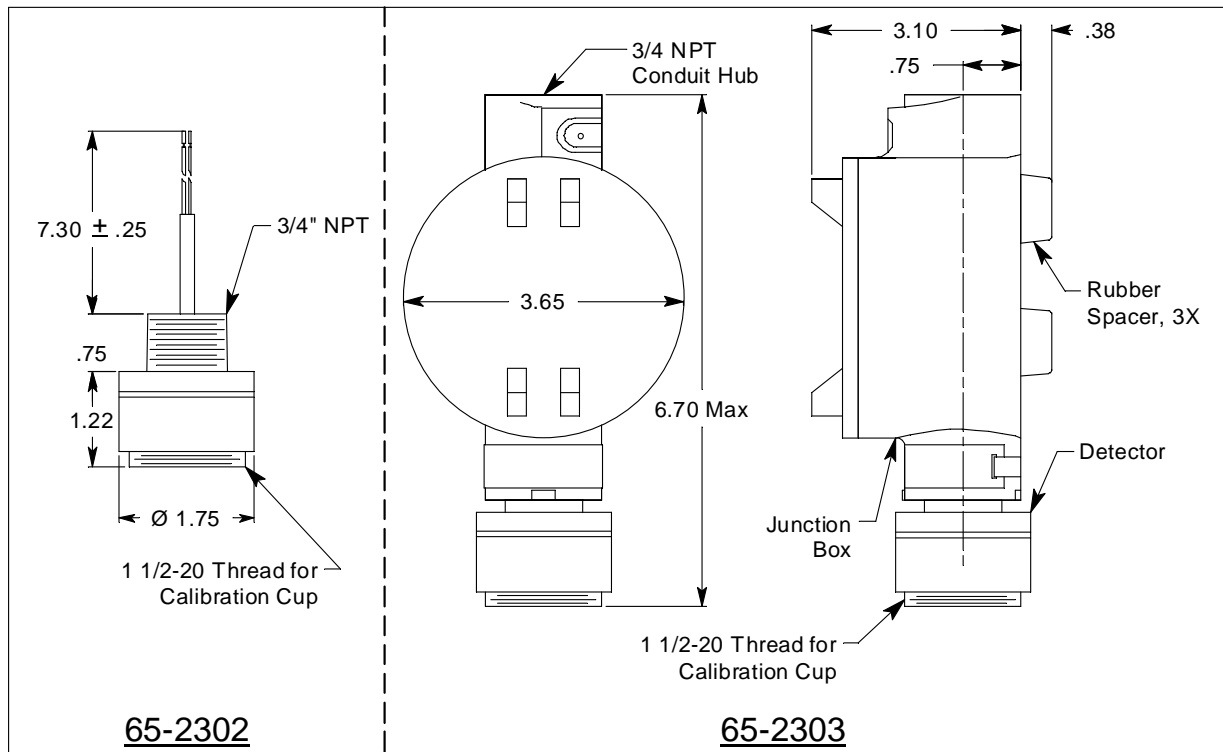

Figure 3: Outline and Mounting Dimensions
NOTE: If you are installing a 65-2302, it does not include a junction box and is usually factory installed in one of a controller's conduit hubs or may be field installed using the 3/4 NPT threads on the end with the wires. The 65-2303 includes a junction box as shown in Figure 3 below.
2. At the mounting site you select, hang or mount the junction box with the detector facing down (see Figure 3).
CAUTION: *Mount the toxic detector with the detector facing down (see Figure 3).*